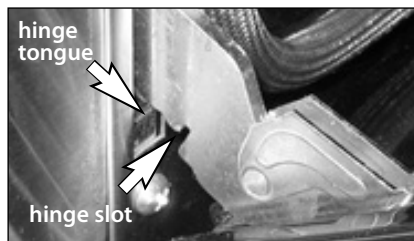

Fig. 22
2. Simply place the hinge tongue into the hinge slots (See Fig. 22).